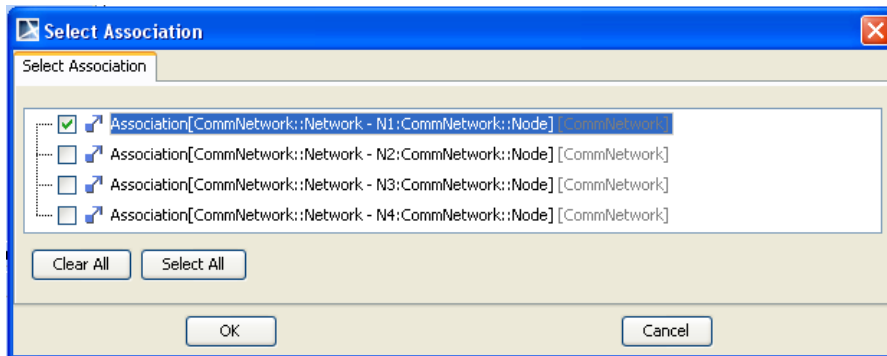

Figure 5.13 Select Association window assigning **StartNode0** instance to **N1**
- viii. Using the connector icon on the floating toolbar, create link from **Net0** to **StartNode0**. A Select Association window appears, as in Figure 5.13. Check the first line to assign the **StartNode0** instance to the **N1** part property.